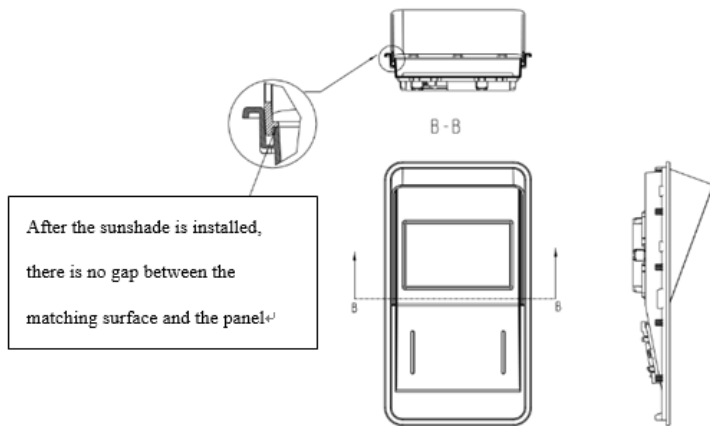

Figure 2.5 The sunshade is installed
Step 2: Push the sunshade upward until you hear a “click”, indicating that the sunshade is installed, as shown in Figure 2.5.